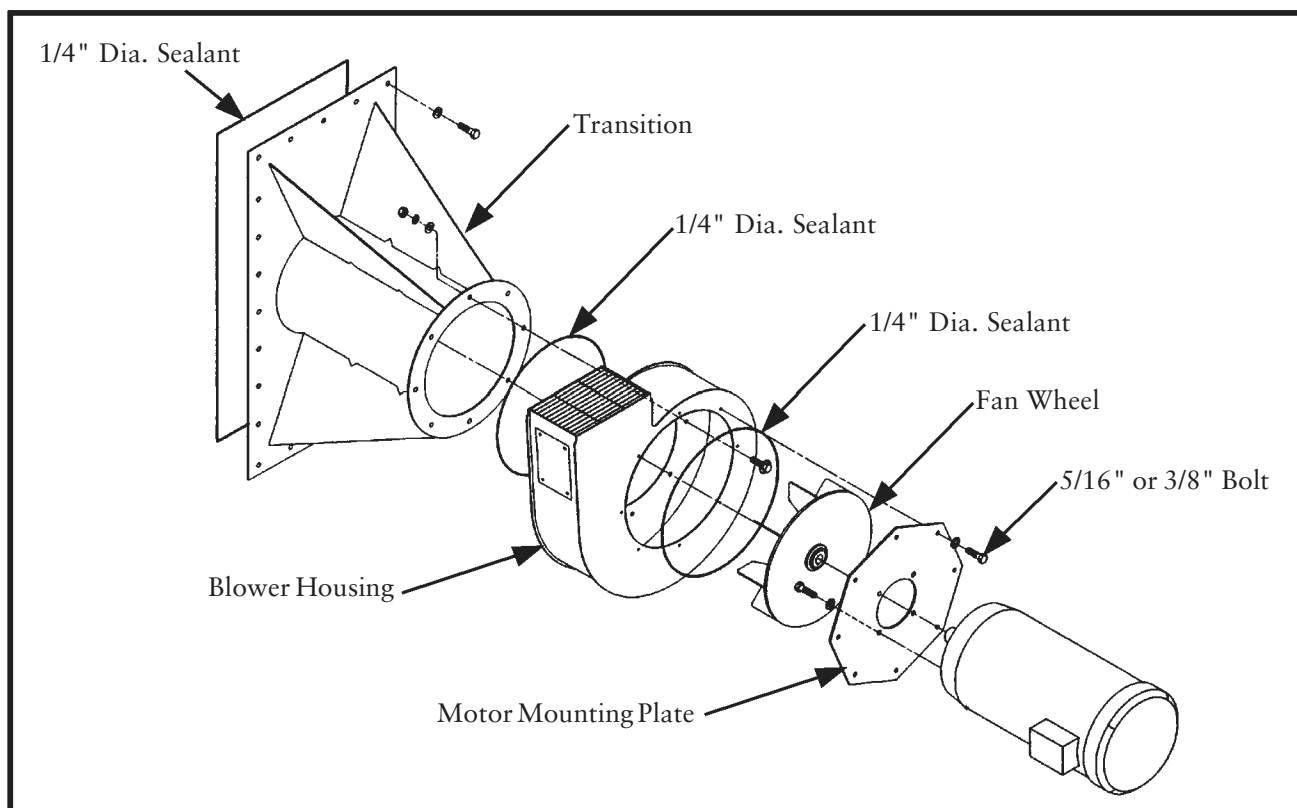

Figure 14
2.6.10 Blower Fan Mounting Instructions (HPH Only) (5, 7-1/2, 10, and 15 HP) (See Figure 14)